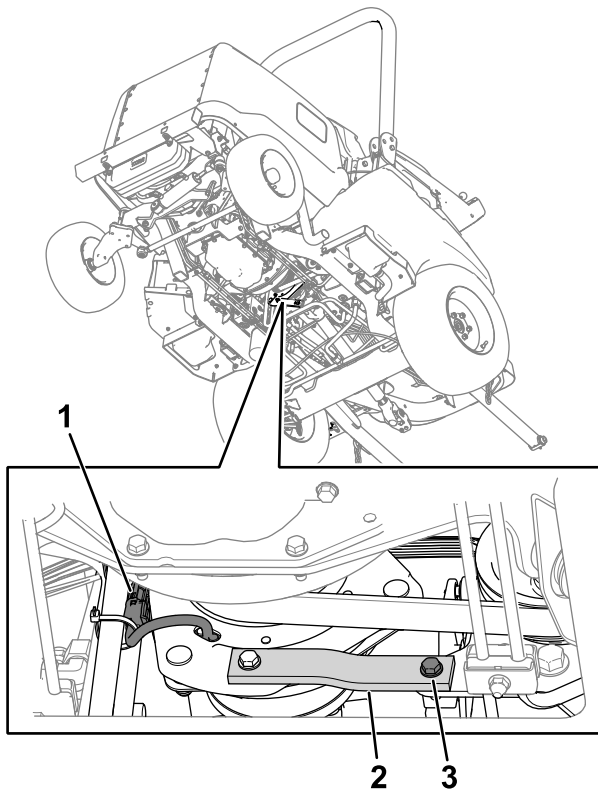

Figure 76
2. Unplug the clutch-wire-harness connector from the machine wire harness (Figure 76).
3. Remove the bolt, washer, and nut from the rubber strap (Figure 76) on the frame.